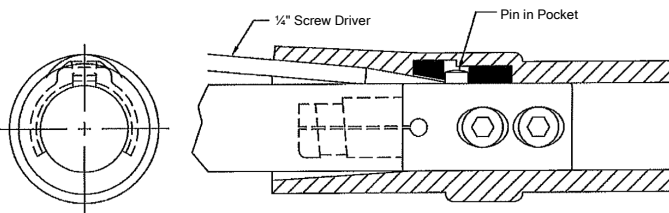

Figure 16
2. Insert 1/4" wide screw-driver into keyway. See Figure 16.